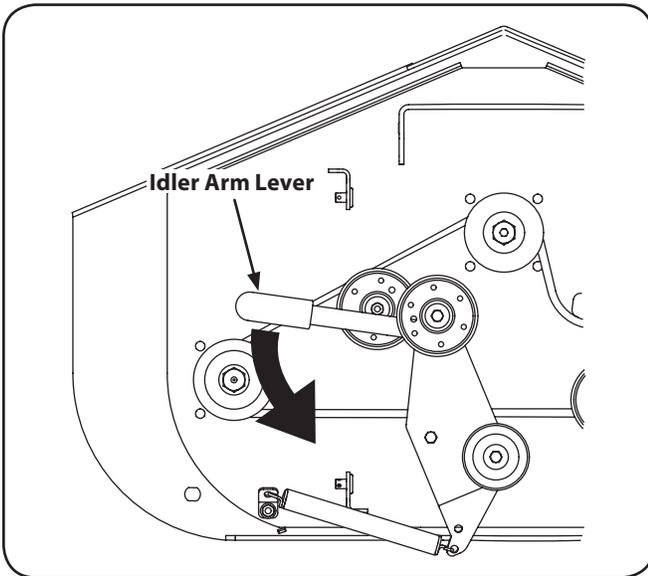

Figure 7-2
3. Reduce the tension on the PTO belt by moving the idler arm lever toward the back of the tractor, then remove the belt from the pulley. See Fig. 7-2.